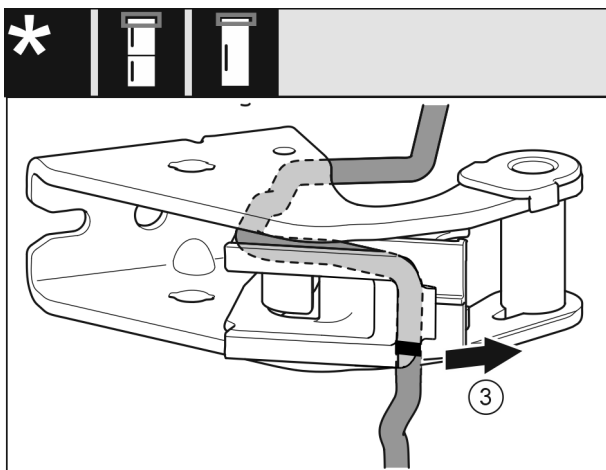

Fig. 29
- ▶ Remove the cable with the cable holder Fig. 29 (3) from the swap bearing block.